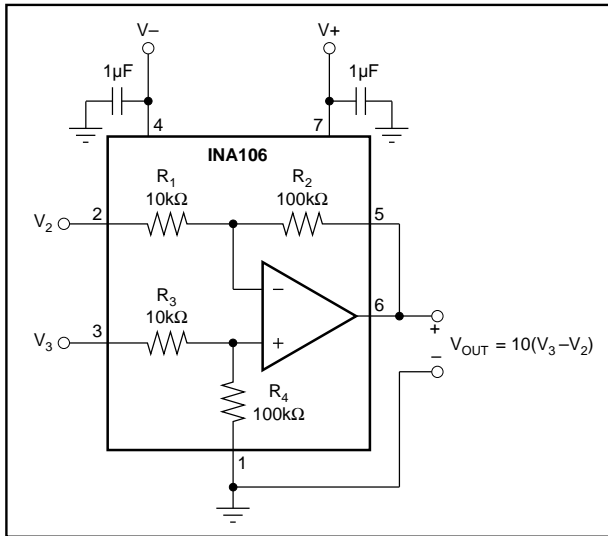

FIGURE 1. Basic Power Supply and Signal Connections.
NOTES: (1) Connected as difference amplifier (see Figure 1). (2) Nonlinearity is the maximum peak deviation from the best-fit straight line as a percent of full-scale peak-to-peak output. (3) With zero source impedance (see "Maintaining CMR" section). (4) Includes effects of amplifier's input bias and offset currents. (5) Includes effect of amplifier's input current noise and thermal noise contribution of resistor network.
Figure 1 shows the basic connections required for operation of the INA106. Power supply bypass capacitors should be connected close to the device pins as shown.
Referring to Figure 1, the CMR depends upon the match of the internal R_4/R_3 ratio to the R_1/R_2 ratio. A CMR of 106dB requires resistor matching of 0.005%. To maintain high CMR over temperature, the resistor TCR tracking must be better than $2\text{ppm}/^\circ\text{C}$. These accuracies are difficult and expensive to reliably achieve with discrete components.